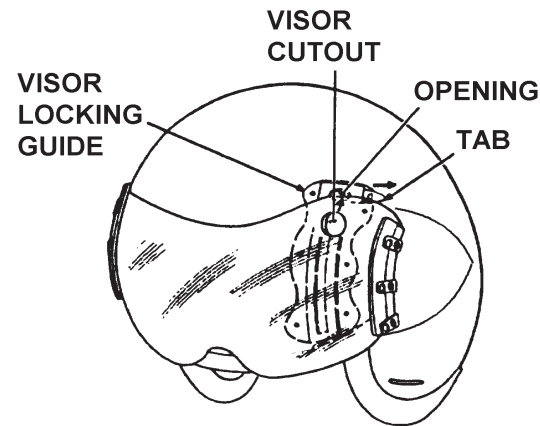

Figure 3-16. Visor Inserted Into Tracks
5. Place the sides of lens into grooves of left-hand and right-hand visor tracks. Referring to Figure 3-16, slide the lens as far back as possible so that the lens cutout is aligned with the opening at the top of the visor locking guide.